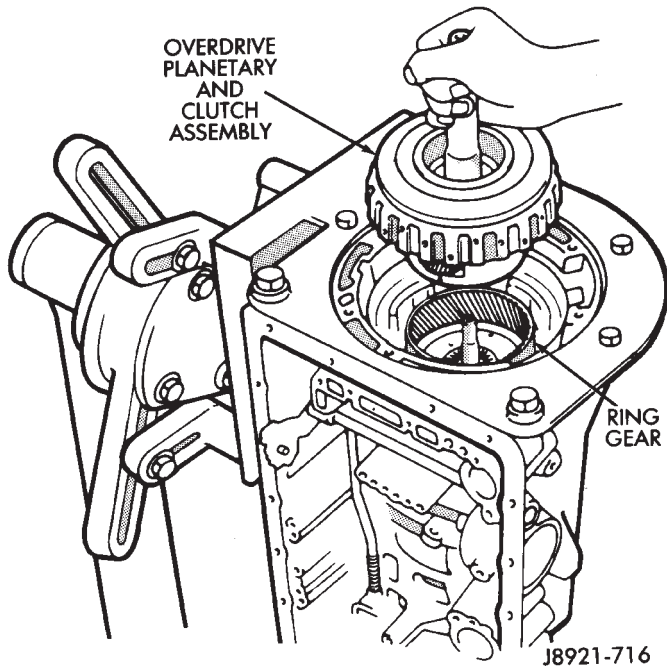

Fig. 168 Installing Overdrive Planetary And Clutch Assembly
(69) Install assembled overdrive planetary gear and clutch (Fig. 168).